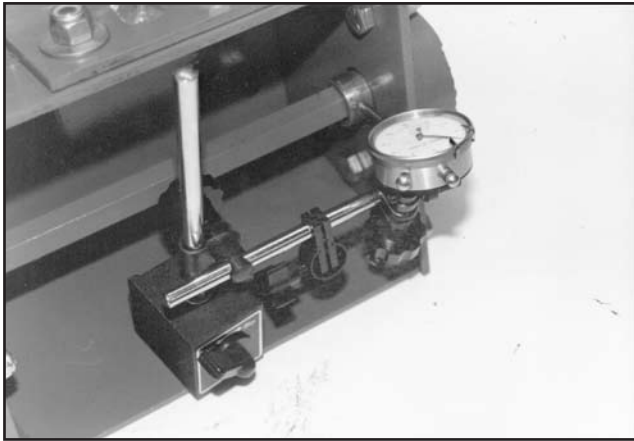

FIGURE 51
b) Position the dial indicator to measure run out on the internal hexagon bushing of the outboard bearing. Maximum run out (as measured by the dial indicator gauge) is + - .015 inches (.381 mm). FIGURE 51.